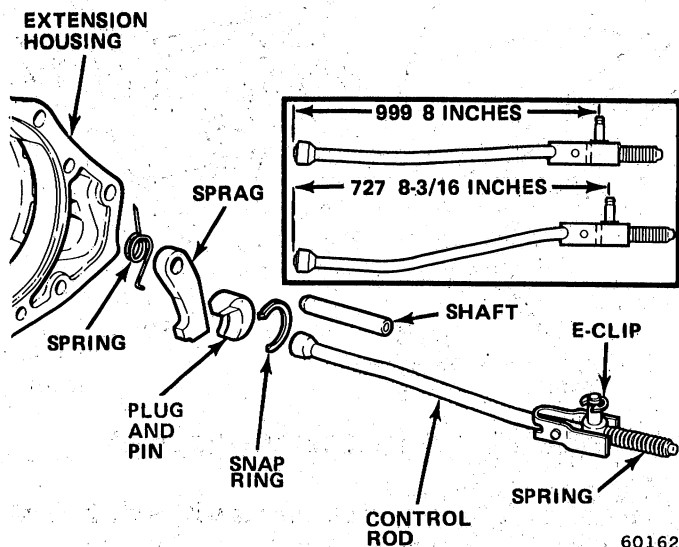

Fig. 2C-26 Park Lock Components
- (1) Install reaction plug and pin assembly in housing and install snap ring (fig. 2C-26).